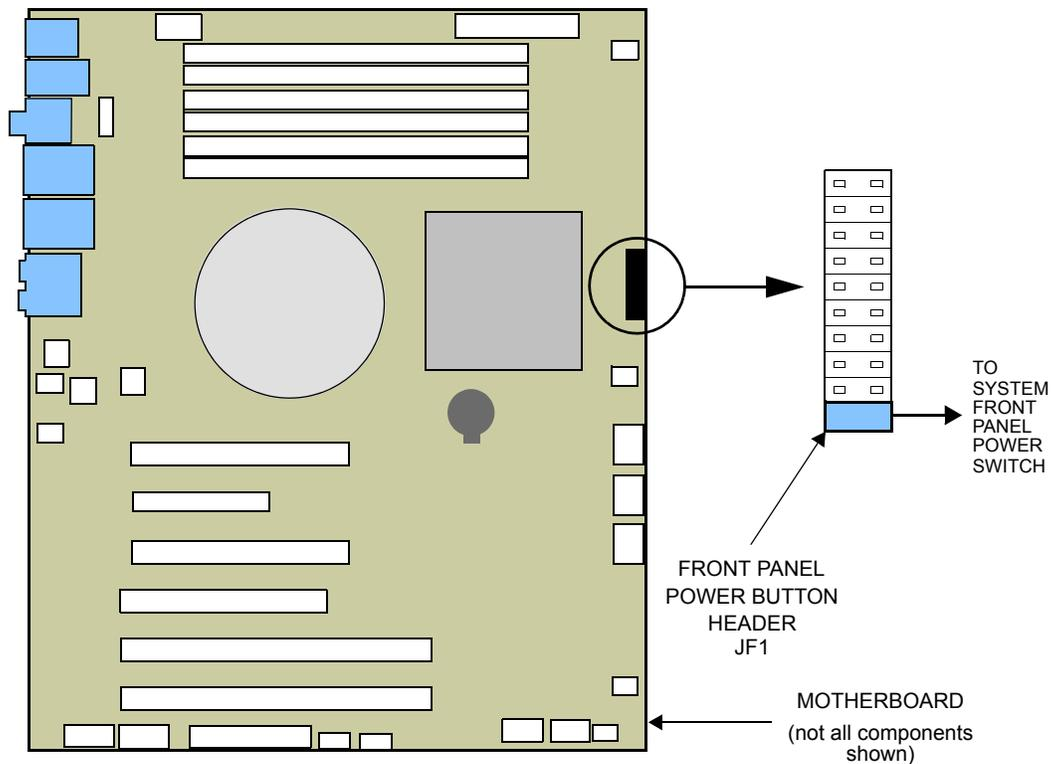

Figure 11 Front Panel Power Switch Connections
2. Inspect the front panel power button header JF1 (Figure 11). Make sure mating connector is firmly seated to JF1 pins 1 and 2.